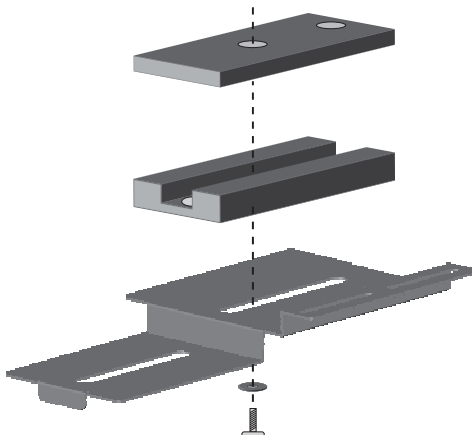

Figure 5.3 Spacers for mounting zoom lens and camera
- Combine the 4 mm and the 9 mm spacers provided to mount the camera to the optional camera tray type A (use different combinations of the spacers to ensure that the camera lens is in the middle of the window). Use the 1/4-20 x 5/8 in screw and large flat washer to secure the camera and spacer to the camera tray, as shown in *Figure 5.3*.